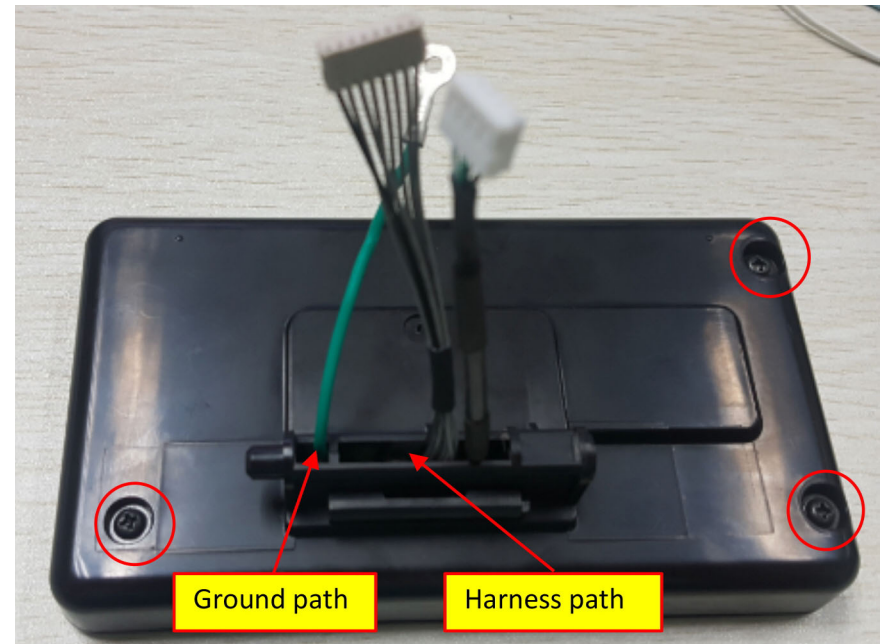

Figure 1 Cover-Stopper removal
- Remove three screws attaching the Lower Cover, then remove the Lower Cover, Figure 1.